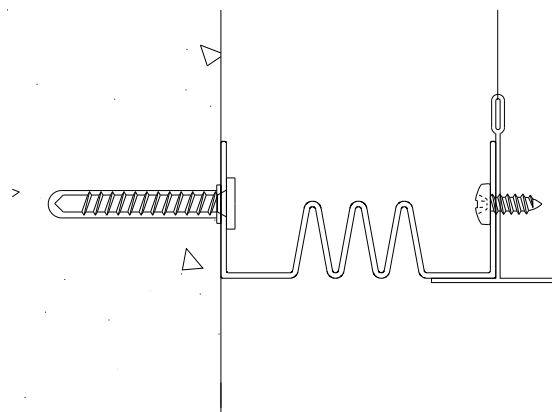

Figure 4
STEP 6. Select the long screws. Using the long screws provided by the factory, attach the seal to the wall (Figure 4).